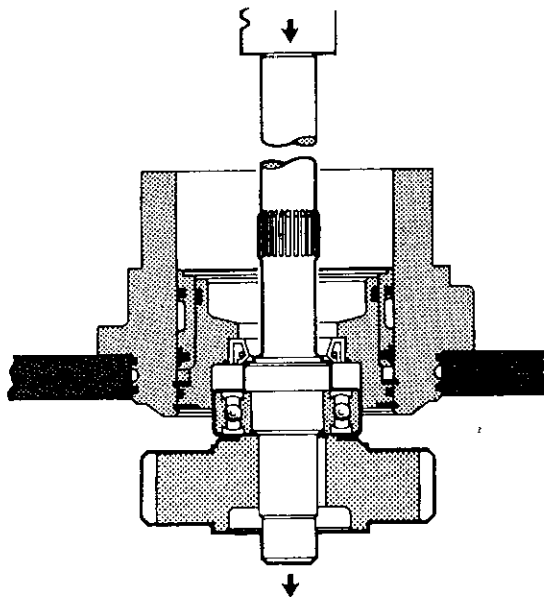

Figure 4.8
15. Support the drive housing and press out drive shaft (28), drive shaft bearing (10), and drive gear (9), as shown in Figure 4.8.